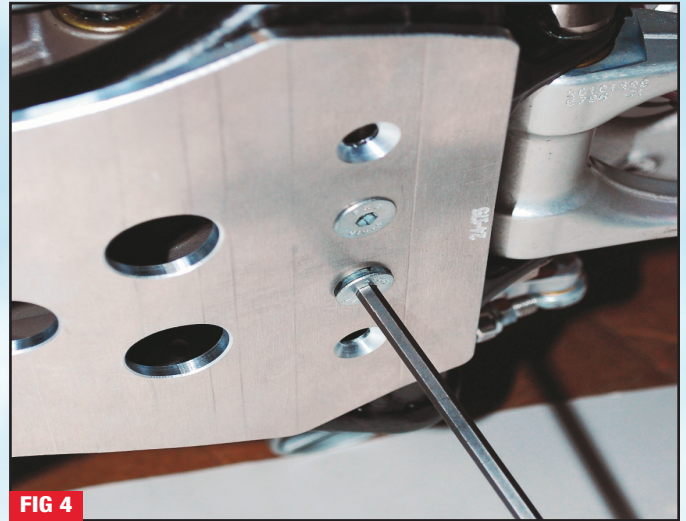
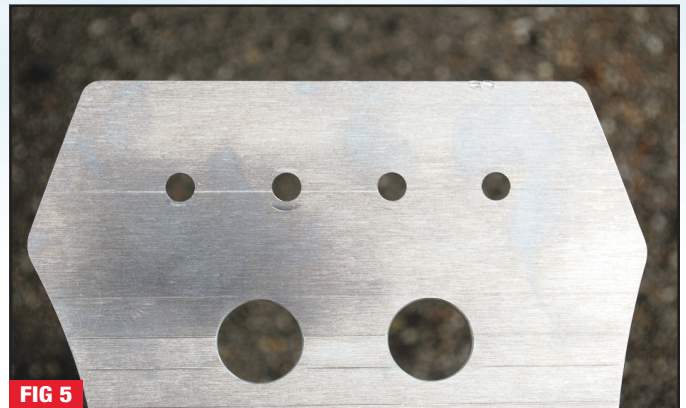

FIG 4
FIG 5
- 4** Now start the shorter 8 x 20mm mounting bolts in the rear. In **(figure 5)** you will see that the skid plate has four holes, on the linkage bikes you will use the center 2 holes and the non linkage bike the outer 2 holes. These bolts screw into the rear clamps as shown in **(figure 4)**. Do not tighten bolts yet.